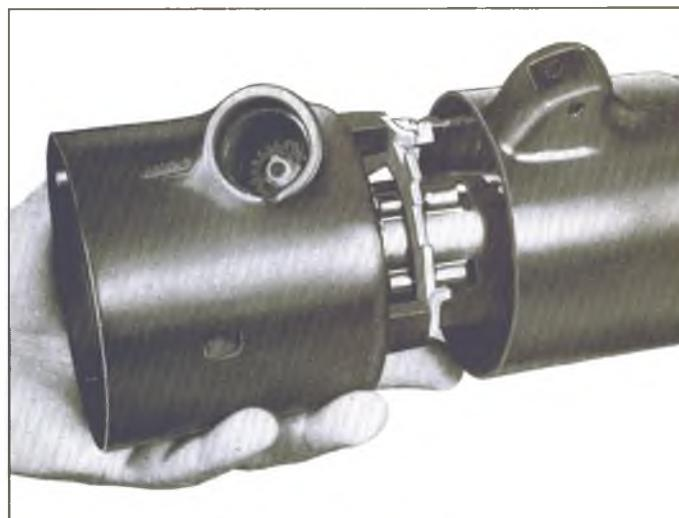

Fig. 66—Removing Turn Signal Housing
5. Remove the upper bearing thrust washer. Remove the four screws attaching the turn signal and ignition lock housing to the jacket and remove the housing assembly (fig. 66).